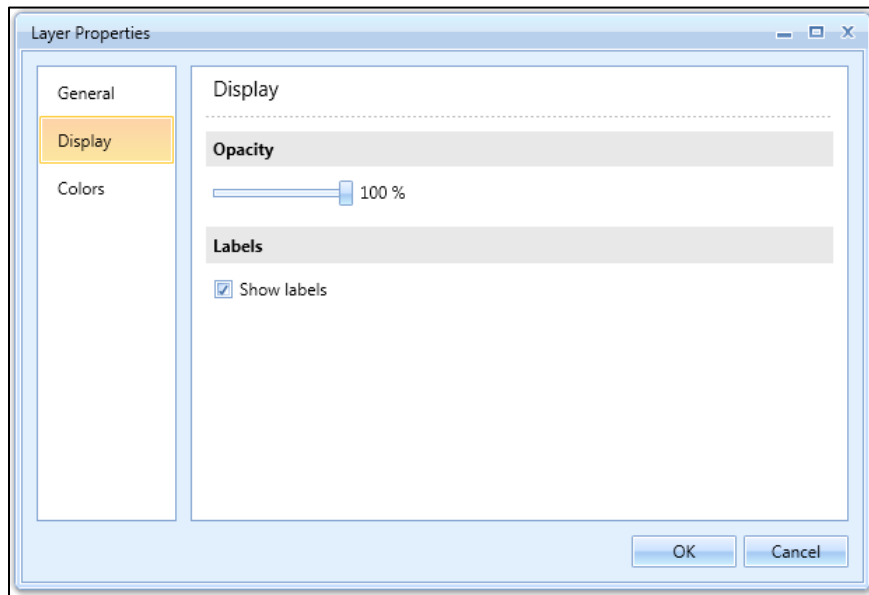

Figure 3-19 Layer Properties Dialog – Display
4. Click *Display* to change opacity and show or hide labels (Figure 3-19).